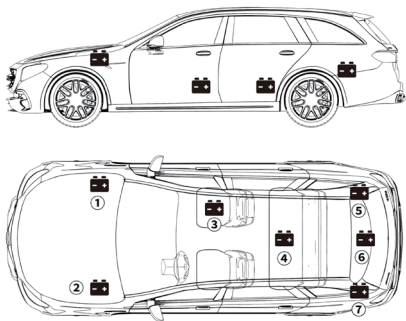

Figure 3.1.1
- 1) Most models hold the battery in the engine bay, under the hood, in one of the front corners. See battery location ① and ② in Figure 3.1.1.
- 2) To balance uneven weight distribution, some manufacturers hold the engine in the trunk. See battery location ⑤, ⑥, and ⑦ in Figure 3.1.1. In this case, the battery may have a plastic cover that should be removed prior to any testing.
- 3) For some models, the battery might be stored underneath the rear seat. See battery location ④ in Figure 3.1.1.
- 4) For other vehicles, the battery can be located underneath the passenger seat. See battery location ③ in Figure 3.1.1.